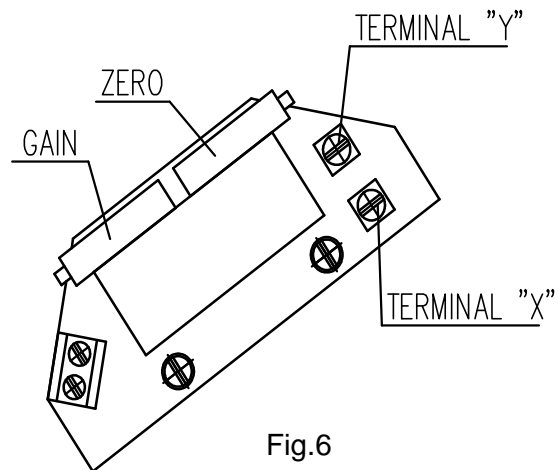

Fig.6
##### 1.1.1. EPV – the 2-wire version (Fig. 6,6a)
- Adjust the resistive transmitter according to the previous chapter. The resistance is to be metered on the terminals X-Y (Fig. 6,6a). The used transmitter resistance is 100  $\Omega$ .
- Adjust the resistive transmitter according to the previous chapter. The resistance is to be metered on the terminals X-Y (Fig. 6,6a).